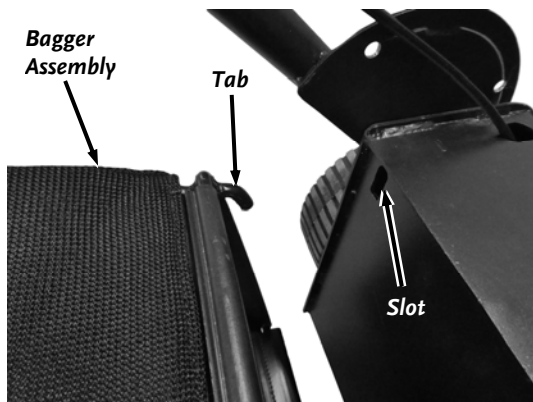

Figure 16
1. Hold the Discharge Guard in the upright position as you place the tabs of the Bagger Assembly into the slots in the rear Frame on both sides (*Figure 16*).